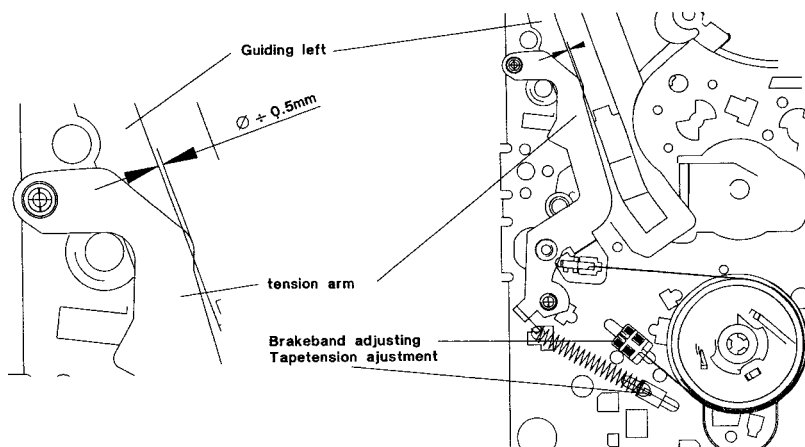

Fig. 2
- Cover the light prism (pos. 95118T) for the tape end LED with e.g. black tape.
- Careful adjust the Brakeband adjusting holder, until the edge of the elbow of the tape tension arm overlaps with left inner edge of the left guide by 0.5mm (fig. 2).